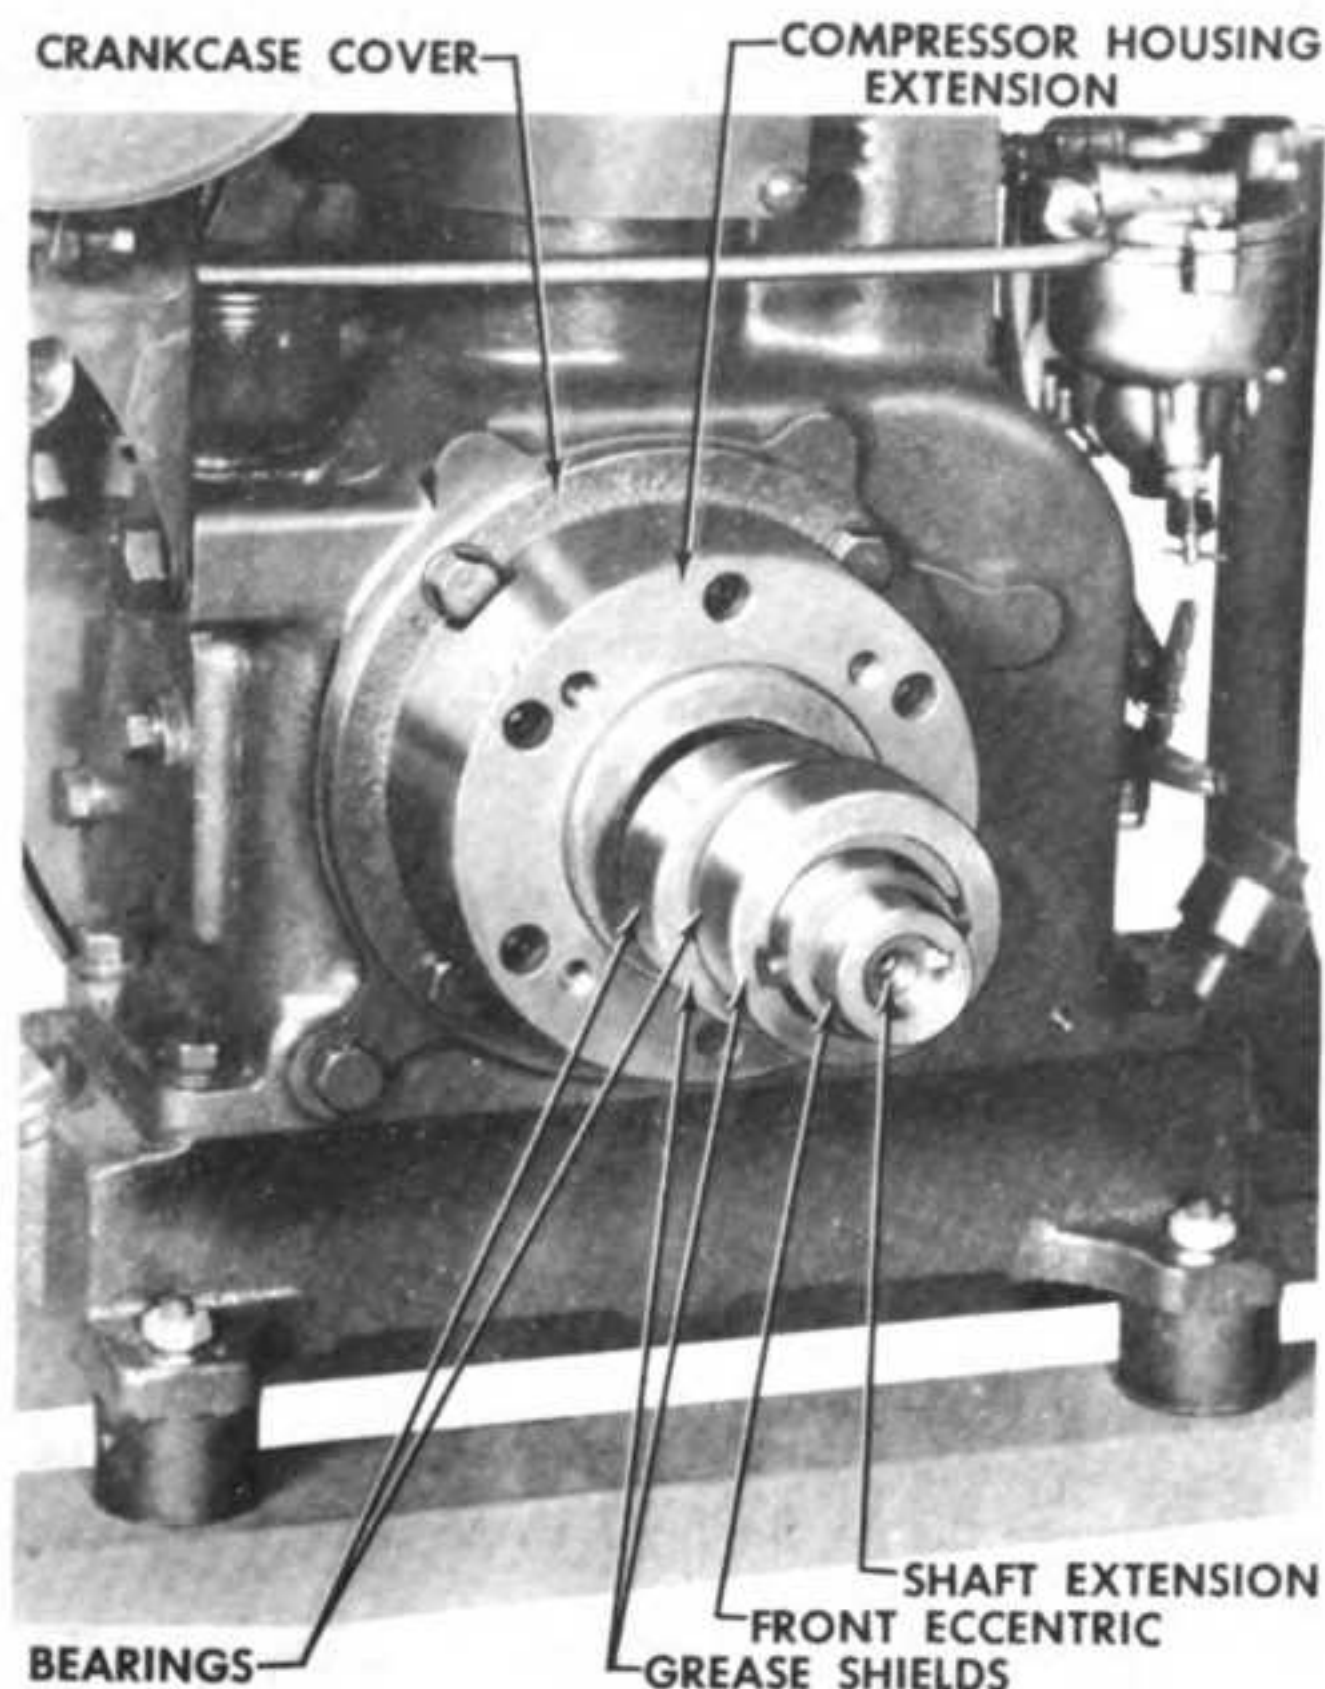

Figure 55—Compressor Housing Removed from Engine
i. Remove the four mounting capscrews and lockwashers securing the compressor housing to the compressor housing extension, freeing the housing. (See figure 55.)